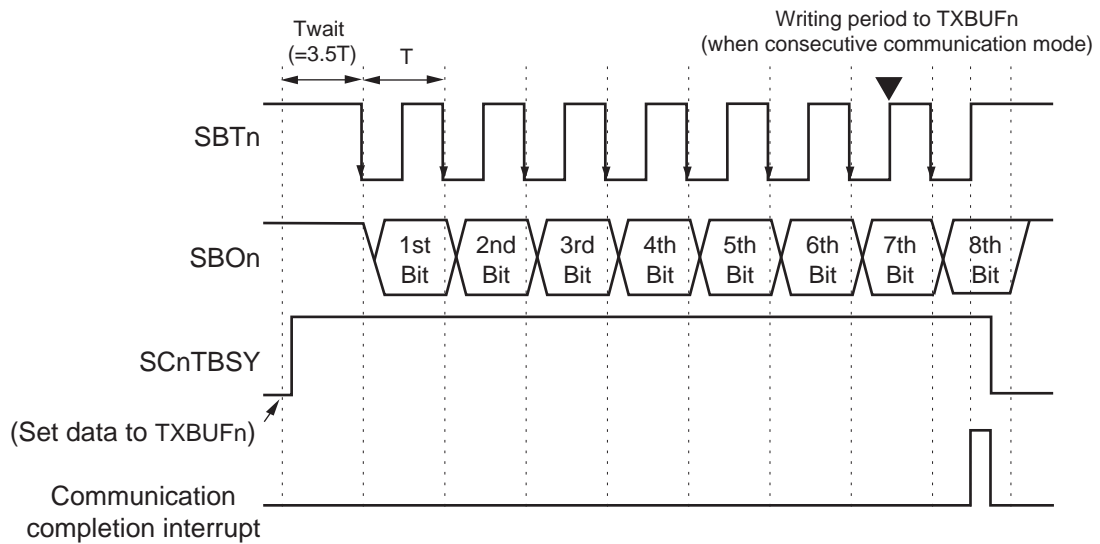
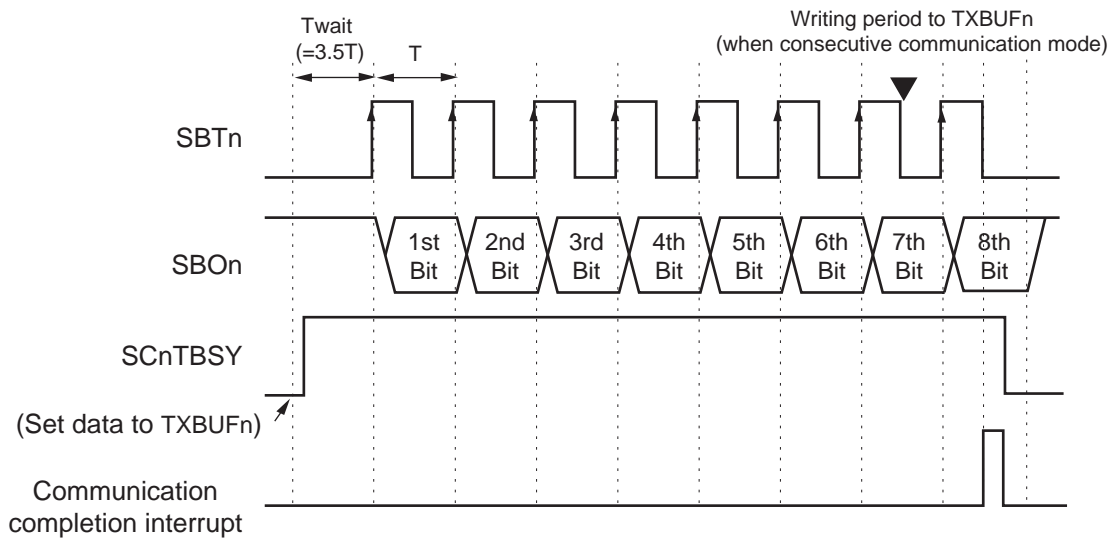
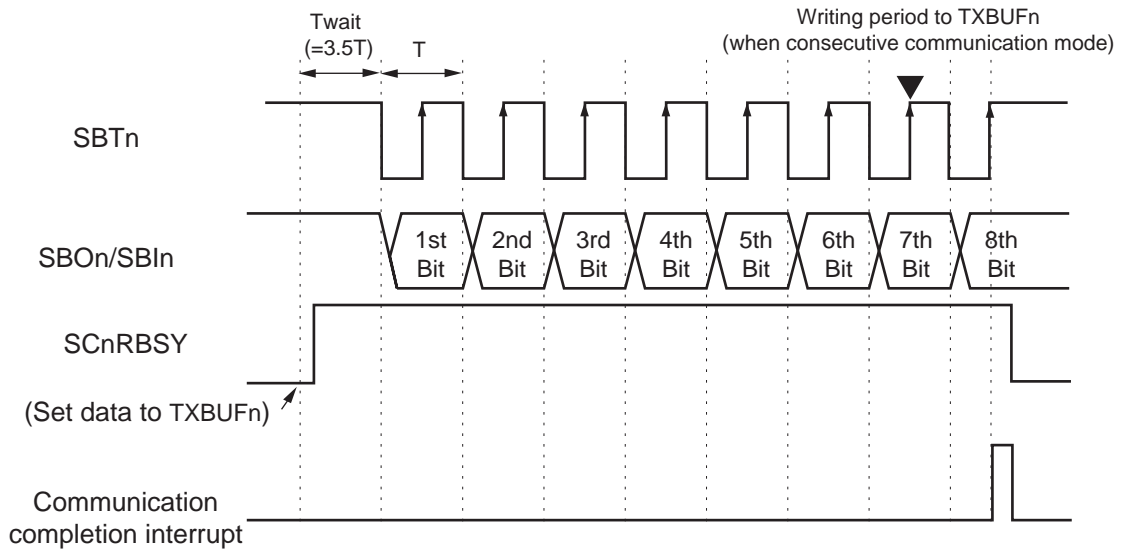
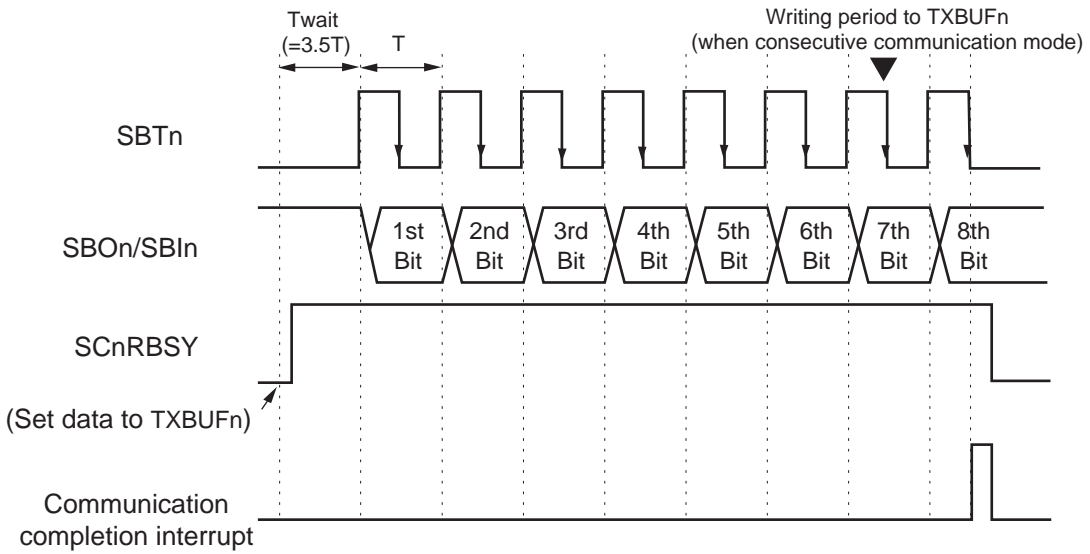

Figure:13.3.11 Transmission Timing (At Falling Edge, SCnCKPH bit = 0)
Figure:13.3.12 Transmission Timing (At Rising Edge, SCnCKPH bit = 0)
Figure:13.3.13 Reception Timing (At Rising Edge, SCnCKPH bit = 0)
Figure:13.3.14 Reception Timing (At Falling Edge, SCnCKPH bit = 0)
In this mode, when the next data is written to TXBUF_n by the specified timing, the following communication is executed without a communication blank. To execute a communication without a blank, write the next data to TXBUF_n before the 7th bit of data (1 byte) is received after the data in TXBUF_n was read out to the transmission shift register (SCnTRB) and SCnTEMP changed to "0". (Refer to the "inverted triangle" sign of Figure:13.3.11, Figure:13.3.12, Figure:13.3.13, and Figure:13.3.14.) If this restriction is not satisfied, the communication blank occurs.
- (1) When writing the next data to TXBUF_n by the time specified with "inverted triangle" sign in Figure:13.3.11, Figure:13.3.12, Figure:13.3.13, and Figure:13.3.14., the blank period of up to 4.5T (including T_{wait} of 3.5T) is inserted between each byte data transmission/reception.
- (2) Other than the above (1), the blank period of up to 4.5T (including T_{wait} of 3.5T) is inserted after writing the next data to TXBUF_n